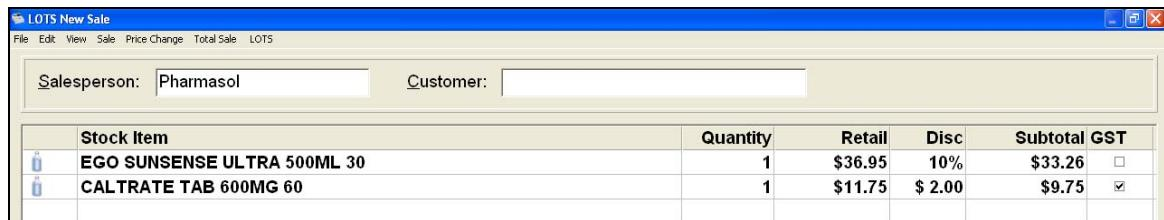

Figure 21
A discount may only be applied to products that have the 'Allow Discount' checkbox ticked in the products stock card. If this is the case a discount may be applied to all by using the function keys (F4 – Standard Discount, F5 – Special Discount) or simply by typing in the desired discount in the 'Disc' field (as shown in Figure 21).
1. A dollar \$ discount may be applied instead of a % discount. Simply type in the \$ sign and the amount you wish to discount into the 'Disc' field (as shown in Figure 21).